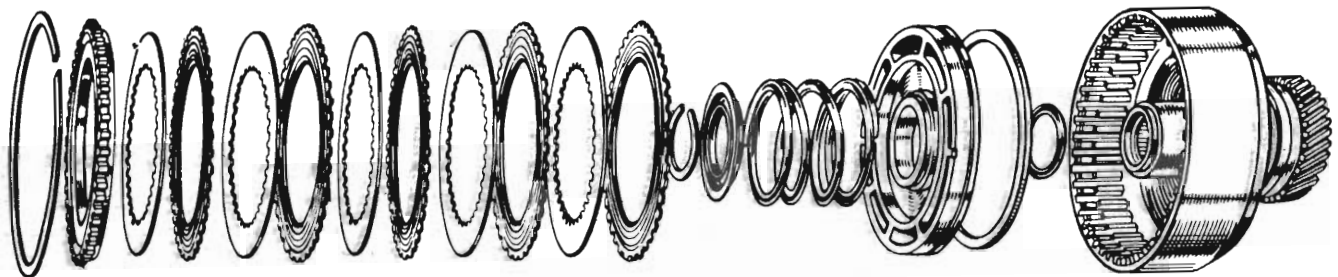

Fig. 38 - Rear clutch assembly (disassembled view)
#### Disassembling Rear Clutch (Refer Fig. 38)
(3) Remove piston, using Tool E1386, to compress the spring (refer Fig. 38).
(4) Remove spring seat retaining snap ring (accessible with ring positioned over flat on boss).
(5) Remove spring seat, spring, piston assembly, by cautiously blowing out with air pressure.
(6) Remove rubber seal ring from piston, also O-rings. Remove the 3 seal rings from clutch drum grooves (where necessary).
(7) Examine sun gear intermediate shaft and seal rings. The needle bearing assembly is serviced